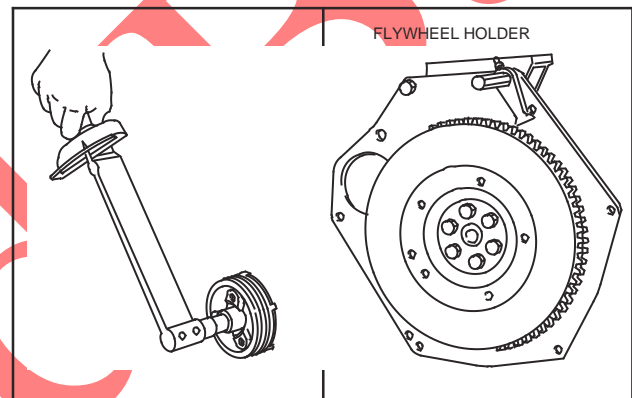

Fig. 19 – Installing Pulley
10. Install crankshaft pulley with timing mark at 12 o'clock position (#1 cylinder), Fig. 19.